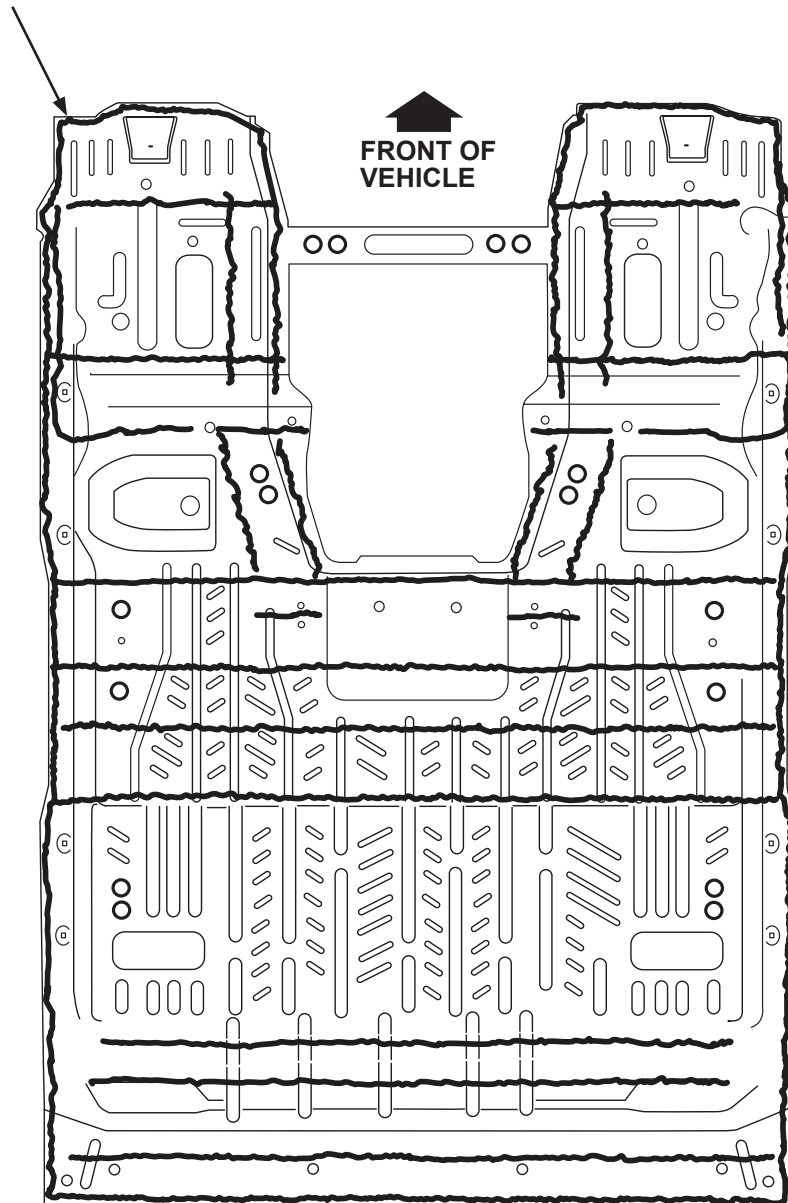

FIGURE 5
- (Refer to Figure 5) for location for adhesive material.
NOTE: The location of SPR and adhesive shown below are based on the original production drawings and should only be used as a guideline. (Refer to Figure 5).